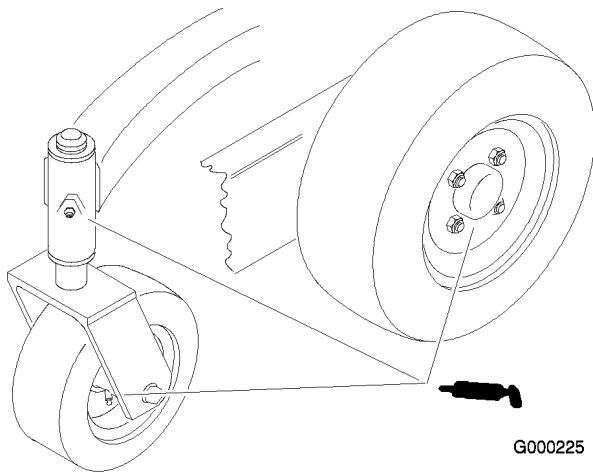

Figure 29
1. Lubricate the front wheel bearings and front spindles (Figure 29).
4. Remove rear wheel grease cap. Lubricate the rear wheel bearing (Figure 29).